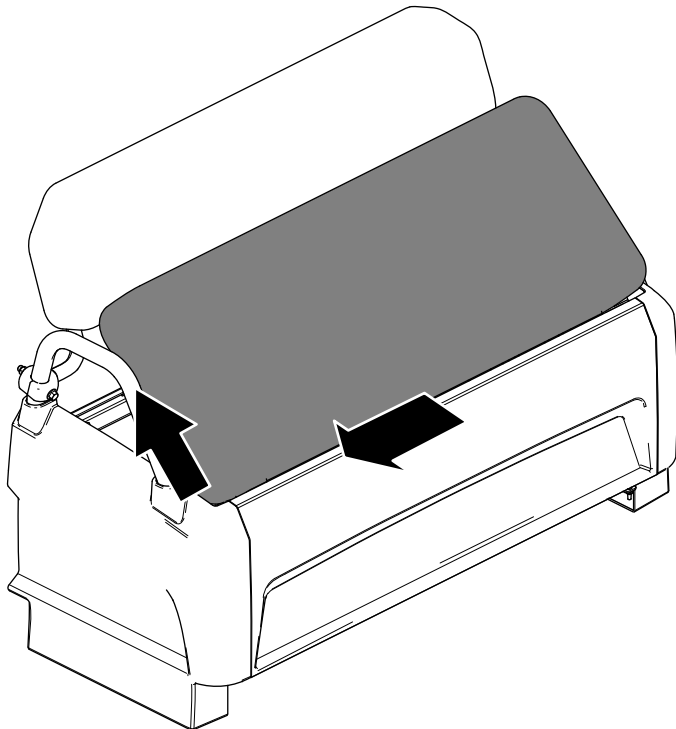

Figure 26
2. Slide the cushion to the side, out of the pins, and lift the cushion upward (Figure 26).